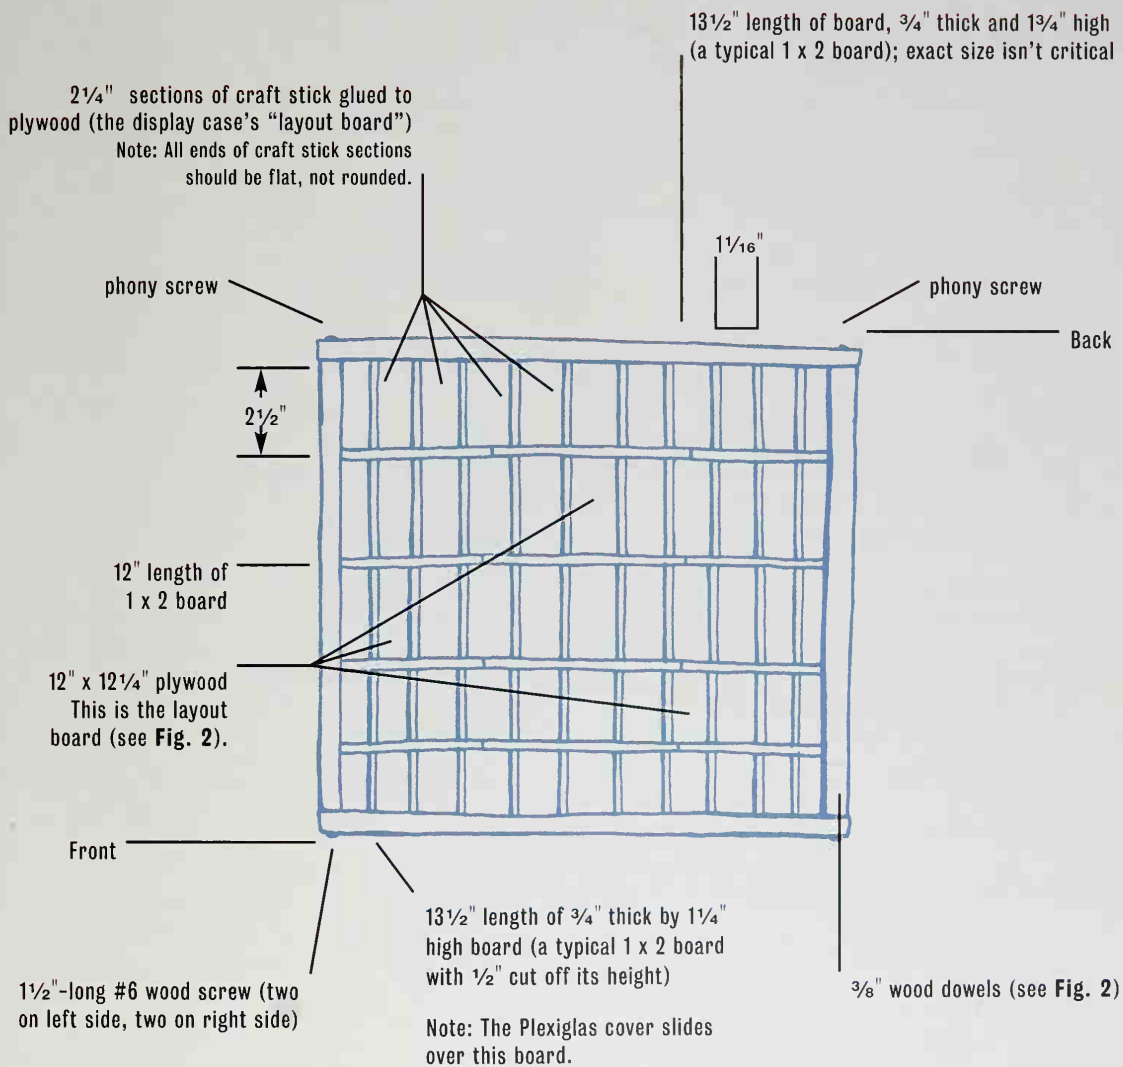

Fig. 1
4. Use four 1½"-long #6 wood screws to fasten the 13½" length of a ¾" × 1¼" board to the front of the case (see **Fig. 1**).
9. Use tacky glue to fasten the twelve 3¾" and forty-five 2¼" pieces of craft sticks to the layout board as shown in **Fig. 1**.